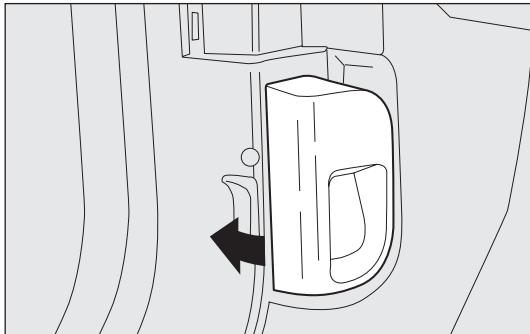

fig. 83
- pull the lever fig. 83 in the direction of the arrow;